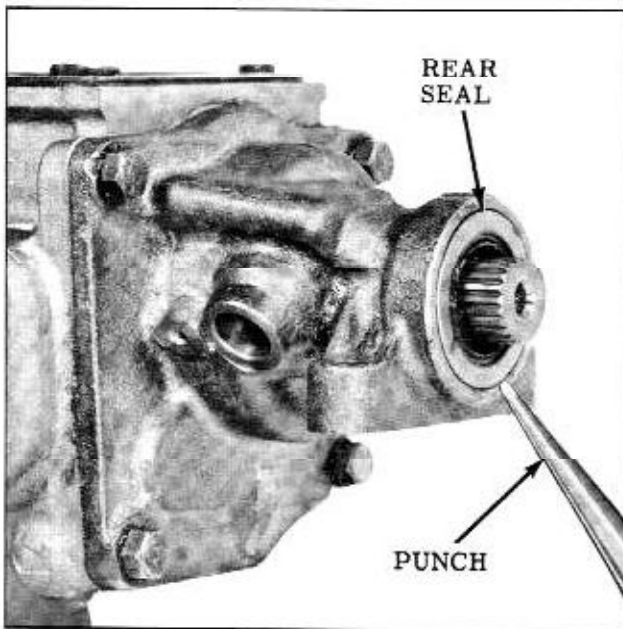

Fig. 10-4 Removing Rear Seal
3. Using an awl, puncture seal and pry out of housing. (Fig. 10-4)